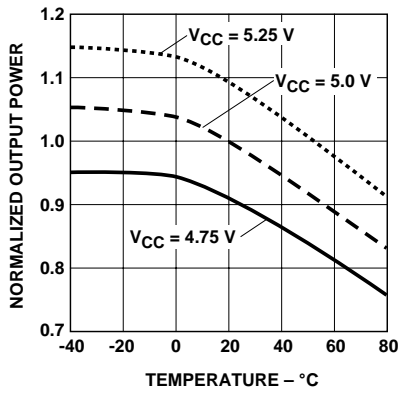

Figure 4. Typical normalized optical power vs. temperature (in recommended drive circuit).
3. Minimum and maximum values for PT over temperature are based on a fixed drive current. The recommended drive circuit has temperature compensation which reduces the variation in PT over temperature, refer to Figures 4 and 6.